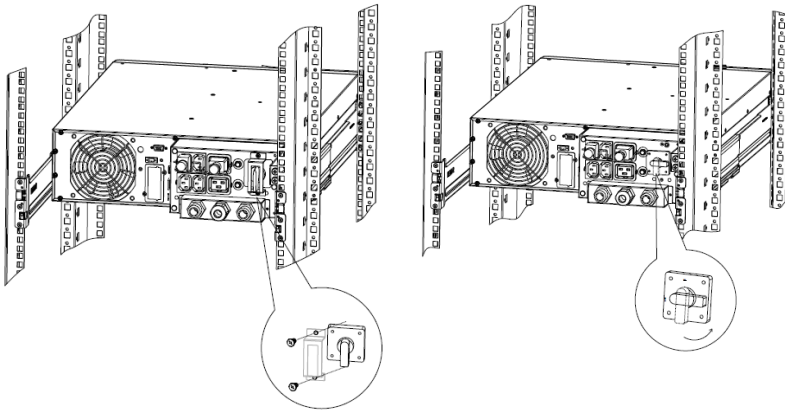

Figure 34: Removing the XANTO S 6000 step 1/3
1. Remove the safety cover from the maintenance switch; unscrew the 2 screws to do this. Switch the maintenance switch to bypass (see Figure 34).